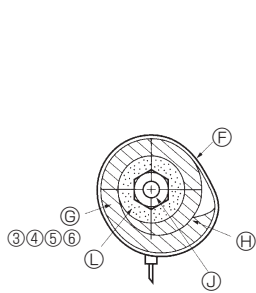
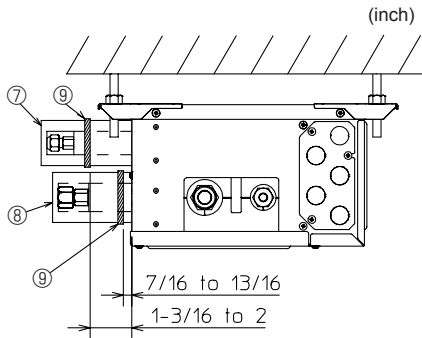

Fig. 7-3
Fig. 7-4
- (3) Connect the refrigerant piping immediately. Always tighten the flared nuts to the torque specified in the table 2 using a torque wrench and double spanner.
- (4) Press the pipe covers ③ and ⑤ on the liquid piping against the unit and wrap to hold in place. (Fig. 7-3)
- (5) Press the pipe covers ④ and ⑥ on the gas piping against the unit and wrap to hold in place. (Fig. 7-3)
- (6) Apply the supplied bands ⑨ at a position 7/16-13/16 inch (10 - 20 mm) from each end of the pipe covers (③④⑤⑥).
- (7) If the indoor unit is not connected, fit the supplied pipe covers (with caps, ⑦ and ⑧) to the branch box refrigerant piping connections against the unit to prevent condensation dripping from the pipes. (Fig. 7-4)
- (8) Clamp the pipe covers (⑦⑧) in place with the supplied bands ⑩.
- Ⓕ Band ⑨
- Ⓖ Pipe covers ③④⑤⑥
► Use the following procedures for indoor connection part which indoor unit is not connected. (Fig. 7-4)
- (1) In order to prevent refrigerant leaks, make sure that the flare nuts are tightened according to the specified torques* in Table 3.
- (2) In order to prevent condensation, install the pipe covers ⑦ ⑧ against the unit and fasten them with the supplied bands ⑨ .